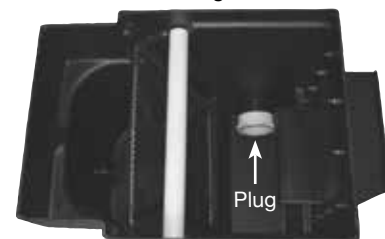

Figure 6
- 1 If no bottom drain is connected, install provided 3" PVC plug in bottom drain port - preferably installed inside the skimmer tub (figure 6). Use Teflon tape or silicone on the threads.